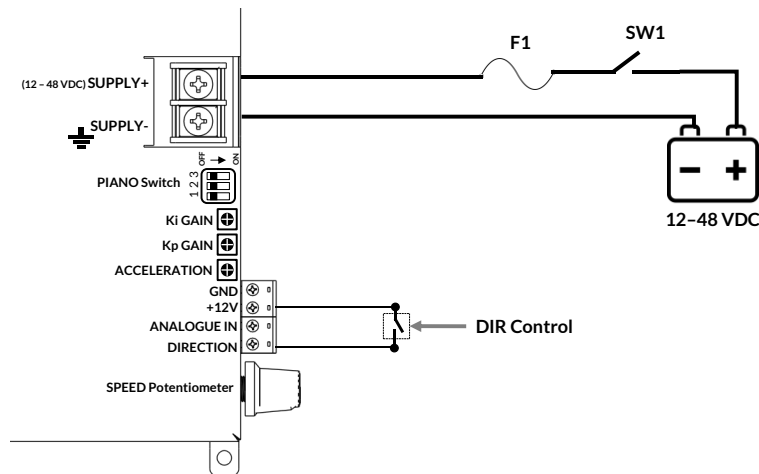
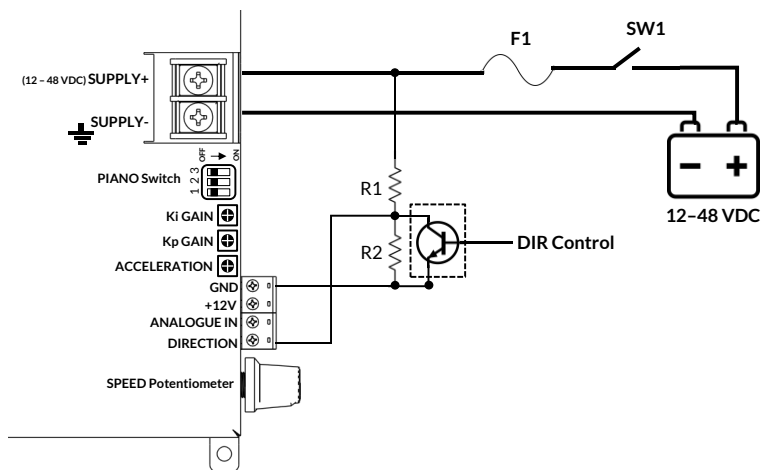
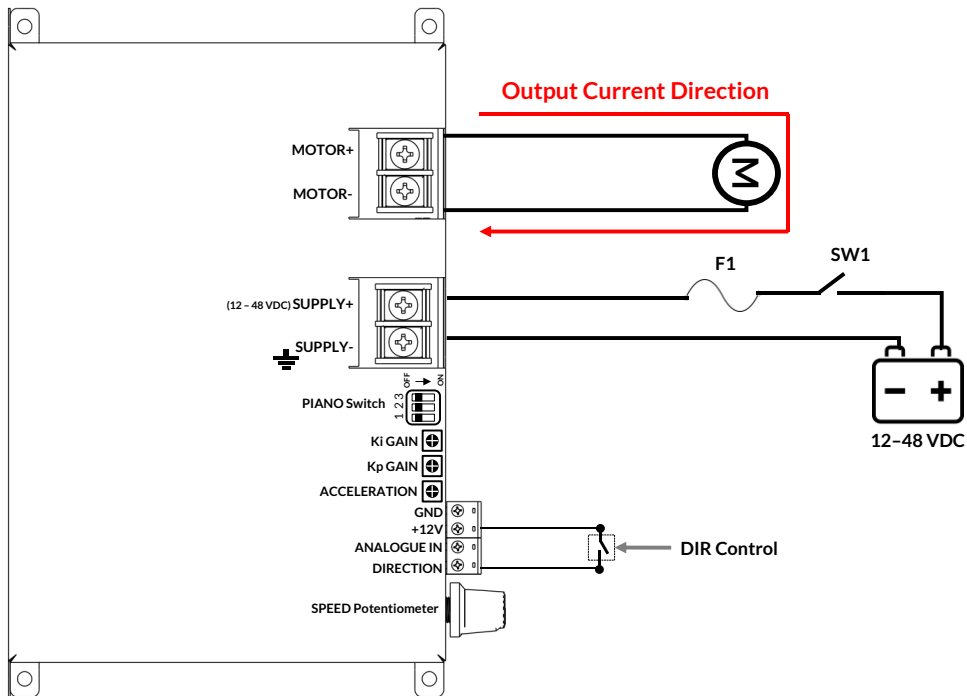
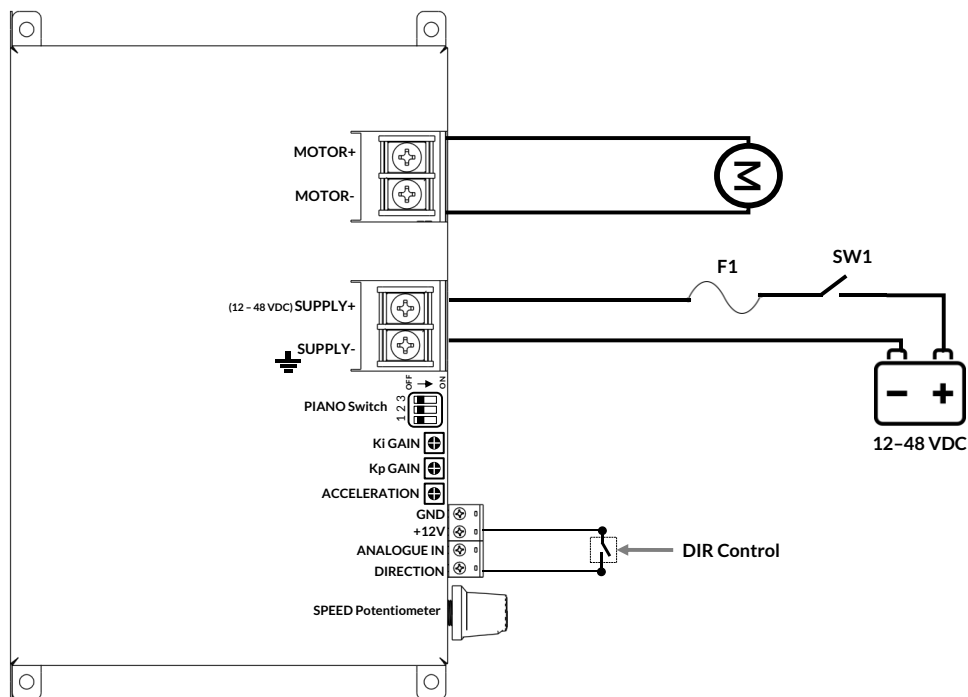

Figure 1-2 - Simplest Form of Direction Control for stable Environments
Figure 1-3 – Direction control using NPN output for Noisy and harsh environments
Figure 1-4 – Effect of Direction control on the Output Current Direction into the Motor
Figure 2-1- Minimum external wiring of CHERRY\_XPS
The direction of the rotation of the Motor connected to CHERRY\_XPS can be changed by pulling up or pulling down the “DIRECTION” pin. The action can be done in two different ways, the first one which is the simplest is by putting a switch between “+12V” pin and “DIRECTION” pin for simple systems in a fairly stable and not noisy environments as can be seen in Figure 1-2. The second method is by using a NPN or Open collector output according to the circuit mentioned in Figure 1-3 for PLC users whom work in industrial environments, in this configuration “R1” and “R2” can be selected as 15KΩ and 10KΩ respectively.
During the Selection of the Motor direction based on the direction control switch shown in the Figure 1-2, the direction of the current floating into the Motor will be as in Figure 1-4 (when the Direction switch is open)
So, if the user closes the direction control switch in Figure 1-4 the direction of the current into the motor will be reversed.
1. **Apply the essential wiring to the system** as shown below in Figure 2-1, the user has to make sure that the value of “F1” (as well as “R1” and “R2” in case of using NPN output to DIRECTION pin as in Figure 1-3) is correctly selected based on the datasheet of the driver.